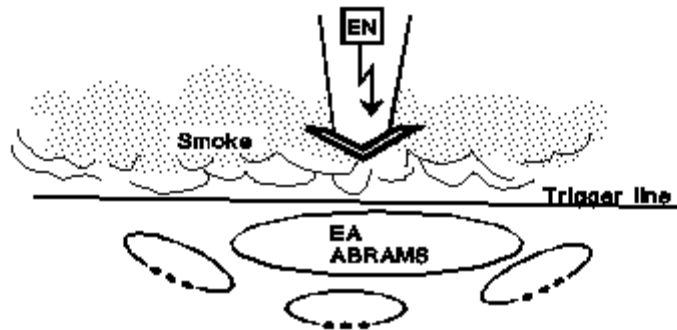

Figure D-5. Using smoke to confuse the enemy and silhouette his vehicles.
- o Obscuration. Smoke can be fired on enemy positions to degrade the vision of gunners and known or suspected OPs, preventing them from seeing or tracking targets and thereby reducing their effectiveness. Employed against an attacking force, nonthermal smoke can cause confusion and disorientation by degrading the enemy's command and control capabilities; at the same time, friendly units retain the ability to engage the enemy using thermal sights and range bands. In addition, enemy vehicles become silhouetted as they emerge from the smoke. If smoke employment is planned and executed correctly, this will occur as the enemy reaches the trigger line (see Figure D-5, page D-26).